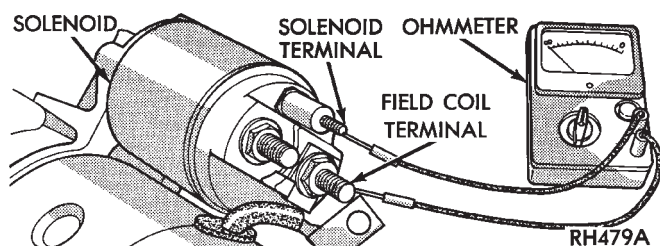

Fig. 7 Continuity Test Between Solenoid Terminal and Field Coil Terminal
(1) Disconnect the wire from the solenoid field coil terminal.
(2) Check for continuity between the solenoid terminal and field coil terminal with a continuity tester (Fig. 7). There should be continuity. If OK, go to Step 3. If not OK, replace the faulty starter assembly.